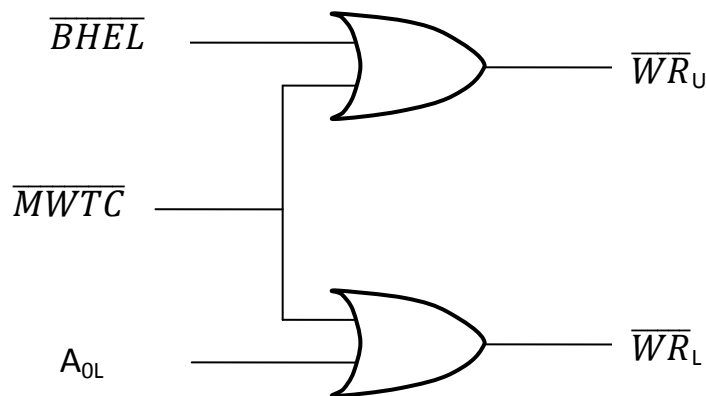

Figure 10-5 Bank write control logic.
- Bank read and writ control logic (see figures 10-5 and 10-6).
The logic circuit in figure 10-5 shows how the bank write control signals, $\overline{WR}_U$ for the upper bank and $\overline{WR}_L$ for the lower bank can be generated from the bus controller signals $\overline{MWT\overline{C}}$, the address bus latch signal A_{0L} and $\overline{BHEL}$.